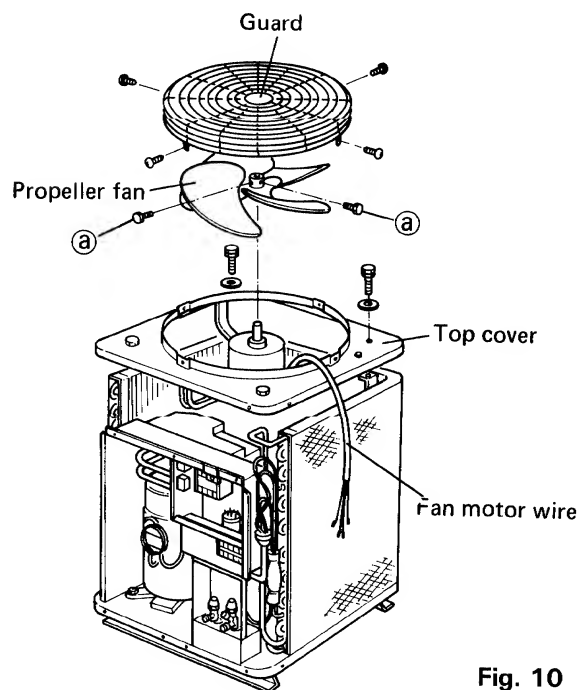

Fig. 10
- 2) Remove the fan motor wire from the electrical component box, and remove the top cover with the fan motor fixed to the top cover. Fig. 10.